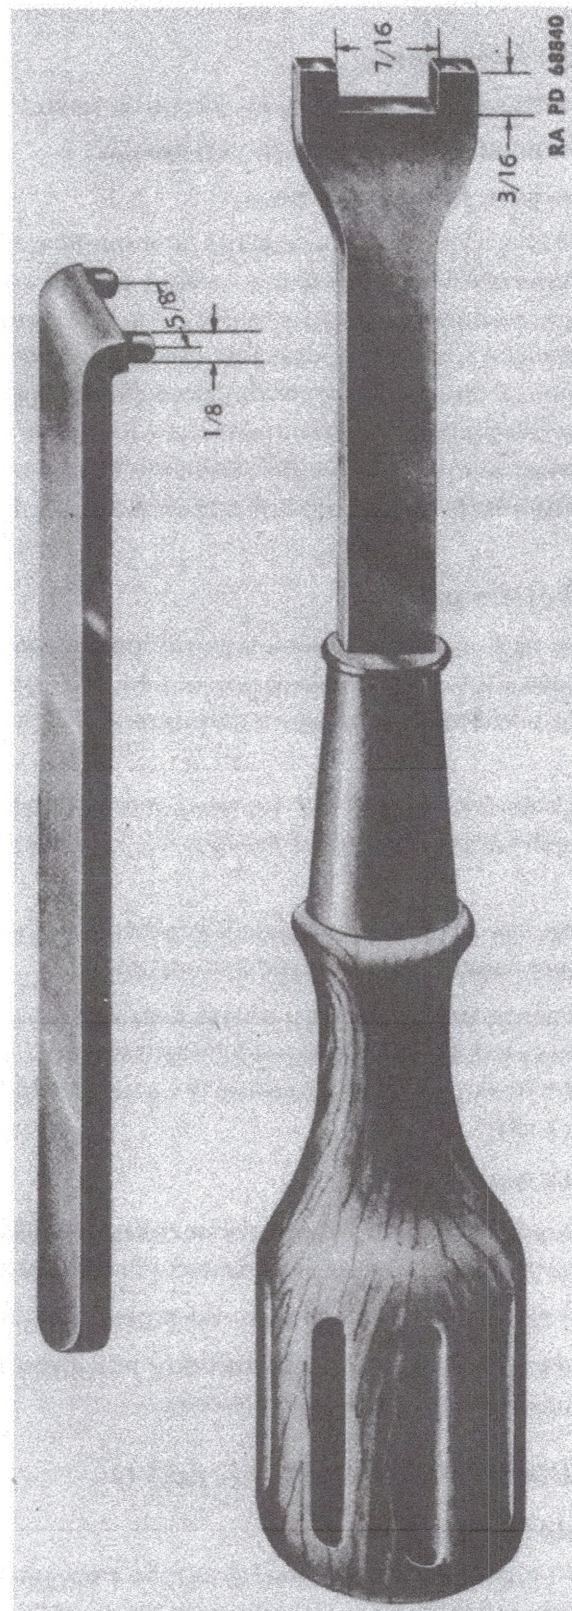

Figure 12 — Spanner Wrench And Straddle Screwdriver
a. Ordinary tools necessary for disassembly, assembly, inspection, maintenance, and repair are carried on the Small Arms Repair Truck M1 and are listed in SNL G-72. The only special tools required are as follows: a face spanner wrench, $\frac{5}{8}$ inch center to center, pin diameter of $\frac{1}{8}$ inch, a $\frac{1}{8}$ -inch hexagonal wrench used in disassembly and assembly of Pyrotechnic Pistol AN-M8, and a straddle screwdriver used in disassembly and assembly of Pyrotechnic Pistol AN-M5. Figure 12 shows dimensioned drawings of the spanner wrench and the straddle screwdriver. The $\frac{1}{8}$ -inch hexagonal wrench may be made from a piece of a $\frac{3}{8}$ -inch rod. The hexagonal and spanner wrenches are issued with parts for the application of replacing the firing pin and springs of the Pyrotechnic Pistol AN-M8. This modification was authorized by FSMWO B33-W1, January, 1943.